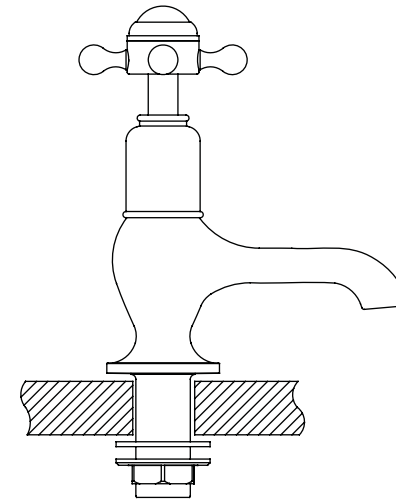

Fig. 2
- Use the washers and backnuts provided to install the taps into the basin/bath as shown in Fig. 2;